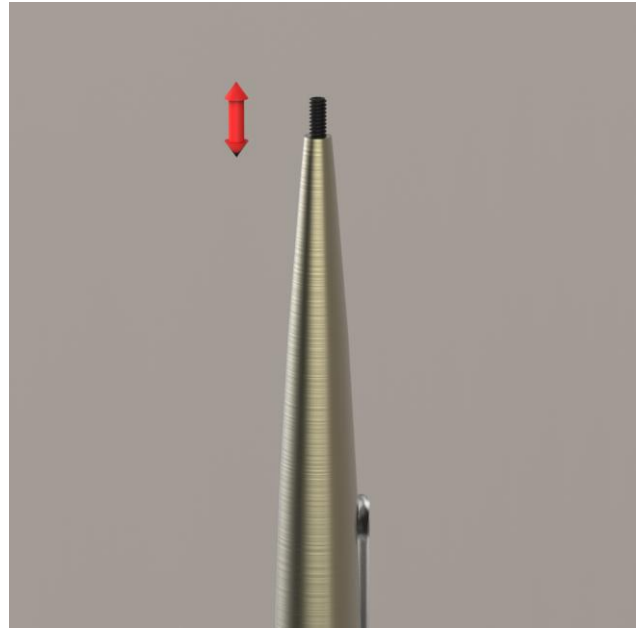

Figure 6
- If screw hole on shade does not properly align with the tapped hole in the tapered rod, remove shade and adjust set screw on tip of rod (Figure 6).